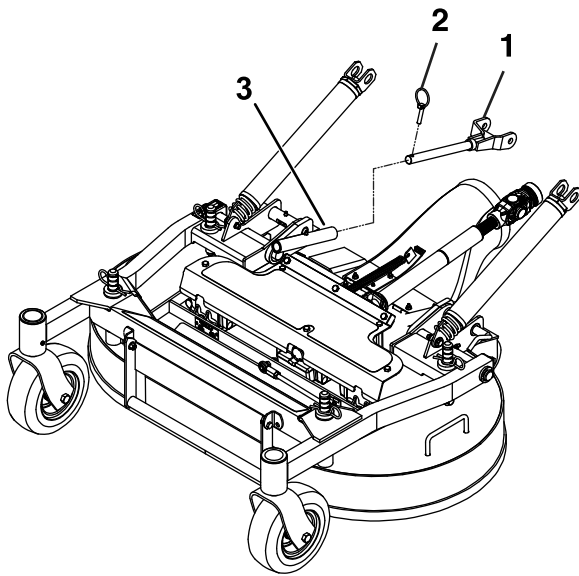

Figure 70
7. Remove the lynch pins at front of push arms on both sides of the machine (Figure 70).
6. Secure the push arms with the lynch pins on the left and right sides of the machine (Figure 70).